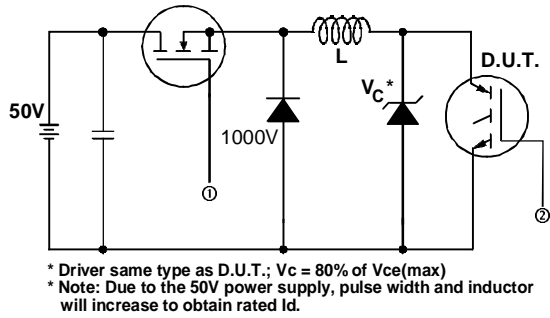

Fig. 13a - Clamped Inductive Load Test Circuit
- ② $V_{CC} = 80\%(V_{CES}), V_{GE} = 20V, L = 10\mu H, R_G = 50\Omega$, (See fig. 13a)
- ③ Repetitive rating; pulse width limited by maximum junction temperature.
- ④ Pulse width $\leq 80\mu s$; duty factor $\leq 0.1\%$.
- ⑤ Pulse width $5.0\mu s$, single shot.
- ⑥ $t = 60s, f = 60Hz$